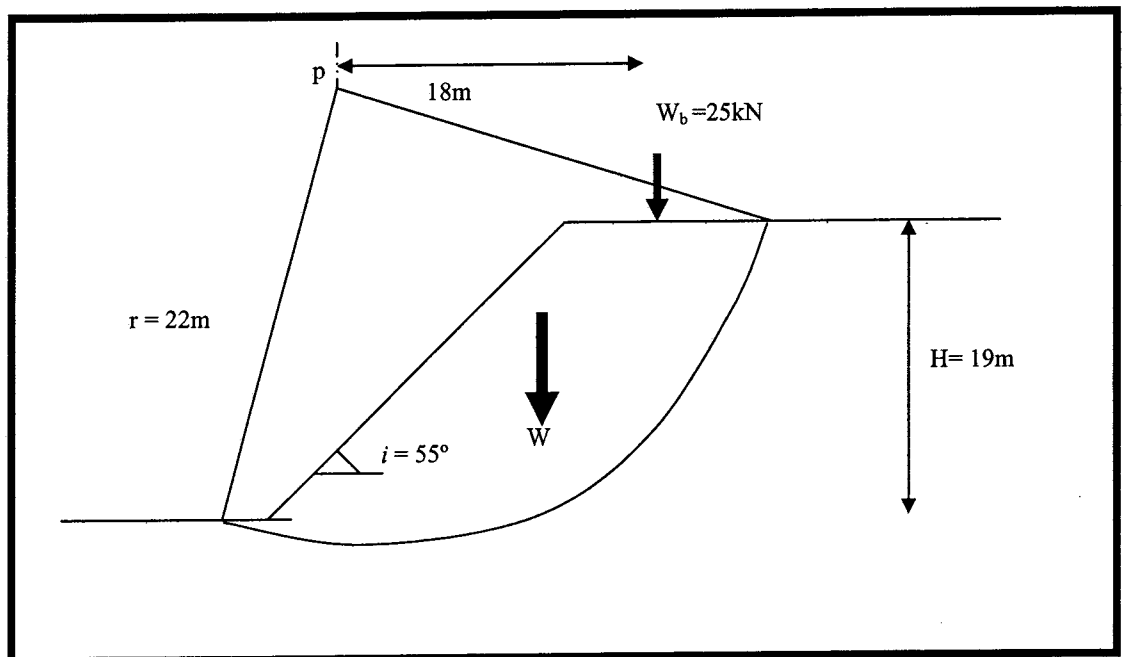

Figure 1.0 [Gambarajah 1.0]
1. (a) There are different types of slope movement which triggered failure, identify **FIVE (5)** types of the movement and explain how these happen. (8 marks)
*Terdapat beberapa jenis pergerakan cerun yang mengakibatkan kegagalan, nyatakan LIMA (5) jenis pergerakan tersebut dan jelaskan kejadian ini boleh berlaku.*
- (b) As shown in Figure 1.0 below, the slope with its soil parameter of  $\gamma = 17\text{kN/m}^3$ ,  $c = 25\text{kN/m}^2$  and  $\phi = 20^\circ$ . Analyse the slope without and with point load of  $W_b$ . Use ordinary method of slices for calculation factor of stability. (12 marks)